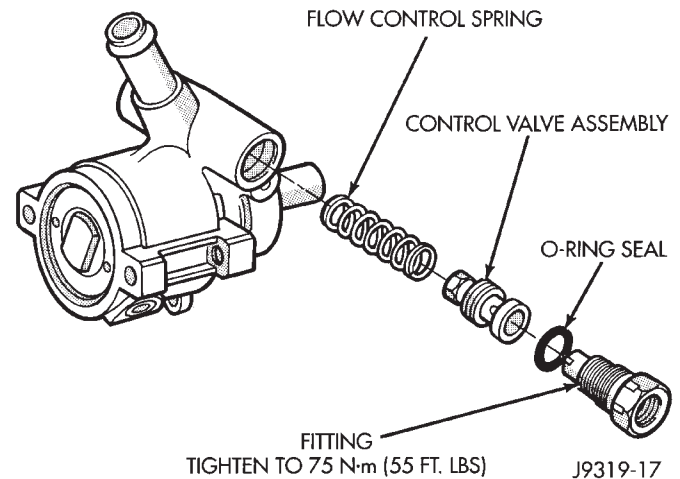

Fig. 7 Flow Control Valve
- (1) Clean area around fitting to prevent dirt from entering pump. Remove pressure hose from pump fitting.
- (2) Remove fitting from pump housing (Fig. 7). **Prevent flow control valve and spring from sliding out of housing bore.**